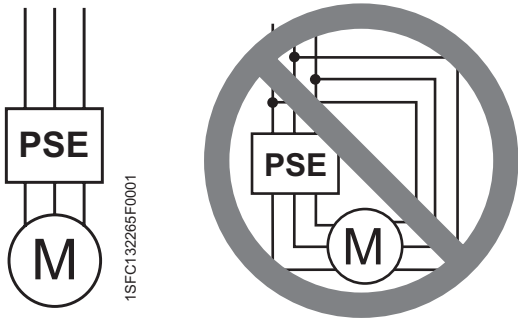

Figure 5.2: ABB PSE Softstarter must be connected In Line only.
Since Softstarters PSE18 ... PSE370 has control in two phases, the connection must be done In Line only, in accordance with the circuit diagrams in figure 5.2 and in Chapter 11.
*Softstarters PSE18...PSE370 must not be connected Inside Delta since this will cause damage to the equipment and there is a risk of death or serious injury. Figure 5.2.*